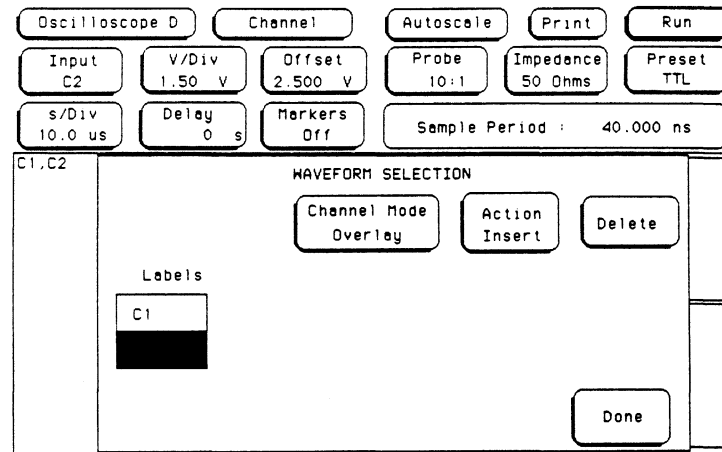

Figure 4-11. Insert Channel Labels
- k. Touch all **Labels**, inserting them in the input label field. See figure 4-11.